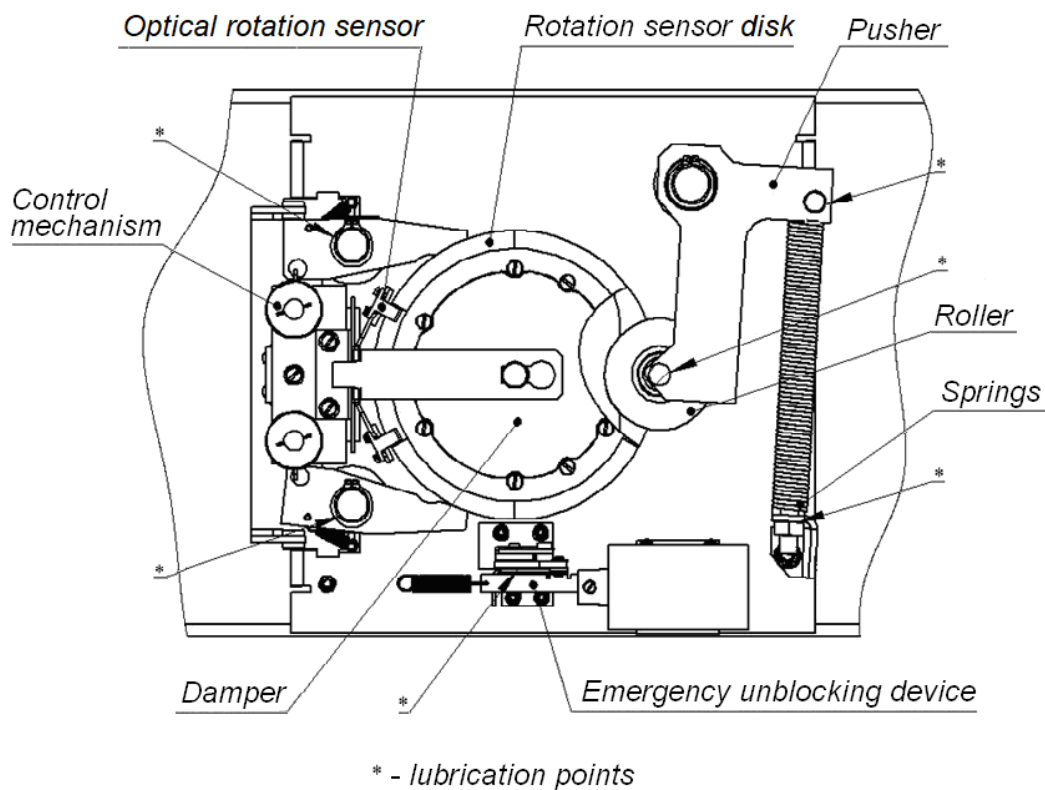

Fig. 14. Interior components of the turnstile mechanism
2. Remove the turnstile top cover (3) from the turnstile housing as described in Section 6.
4. Inspect the resetting mechanism (a pusher, springs, and a roller), optical rotation sensors for the barrier arms, and a damper (see Fig. 14).
6. Lubricate the following friction units of the turnstile mechanism with machine oil (lubrication points are marked in Fig. 14):